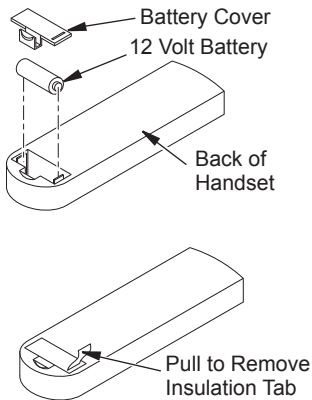

Figure 15 - Installing Battery into Back of Handset
3. Activate the remote handset battery by removing the insulating tab on the back of the handset (see Figure 15). The battery is included pre-installed.